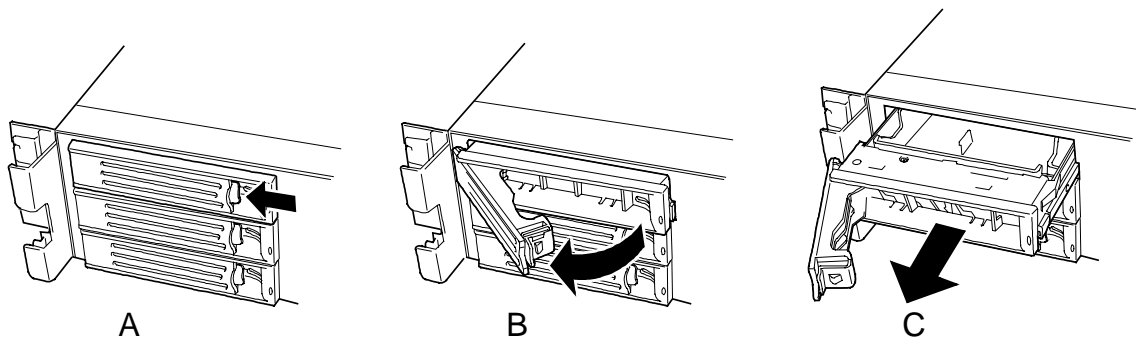

Figure 4-32. Unlocking and Removing a Drive Carrier
4. Remove the drive carrier from the system. See Figure 4-32.